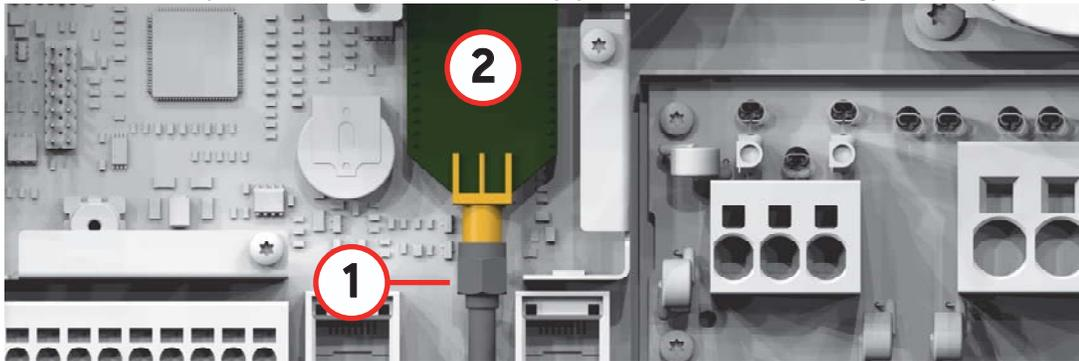

Figure 10-4: ZigBee chip with circuit breaker cover removed
6. Carefully disconnect the coaxial cable (#1 in *Figure 10-4*) from the ZigBee chip (#2 in *Figure 10-4*) using either your fingers or a small wrench.